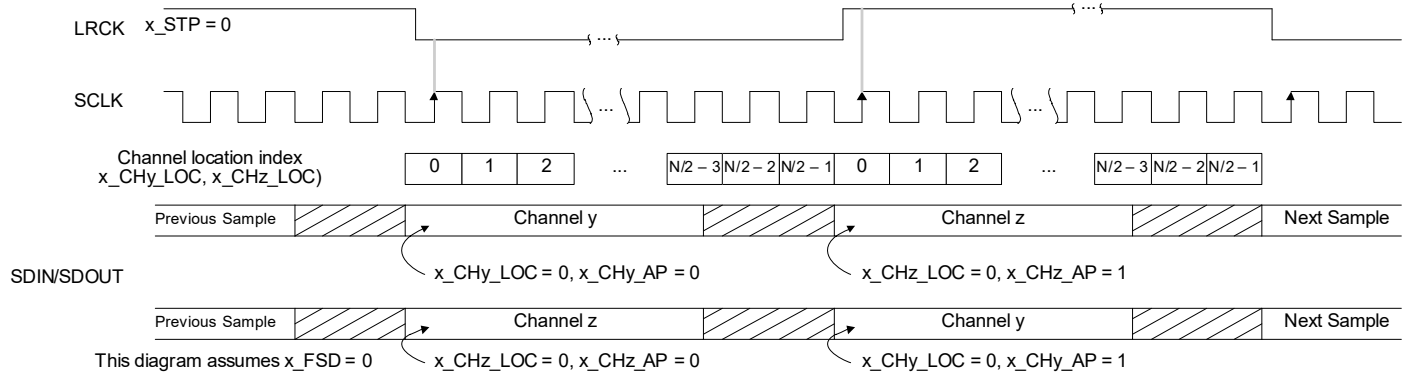

Figure 4-37. Example 50/50 Mode (ASP_STP = 0)
- If **ASP_STP = 0**, the frame begins when LRCK/FSYNC transitions from high to low. See Fig. 4-37.